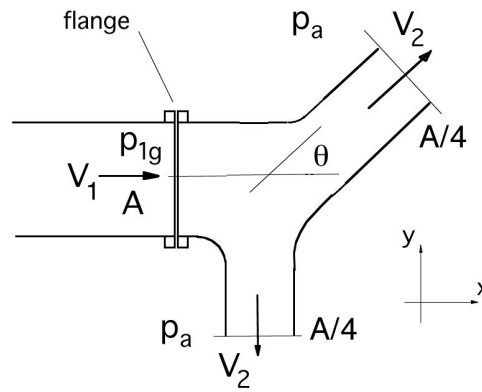

Figure P4.54
4.54 A flange connects a pipe section of inlet area A , as shown in Figure P4.54. The pipe section splits smoothly into two separate streams that both exit to atmospheric pressure through areas $A/4$. The flow is steady, one-dimensional, and the air has a constant density ρ . The gauge pressure at station 1 is p_{1g} . Ignore the effects of gravity. Show your control volumes and all your working clearly, and state all your assumptions.